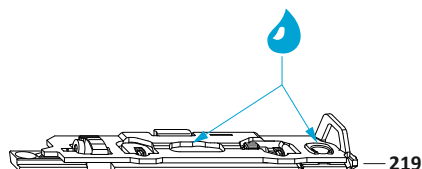

Fig. 1
Assembly of the bottom hinge (219) at BSU (fig. 1)
Note: use for sunken sash groove from a width > 13.5 mm (fig. 1) "MV ALU-DK/TBT A0172"!